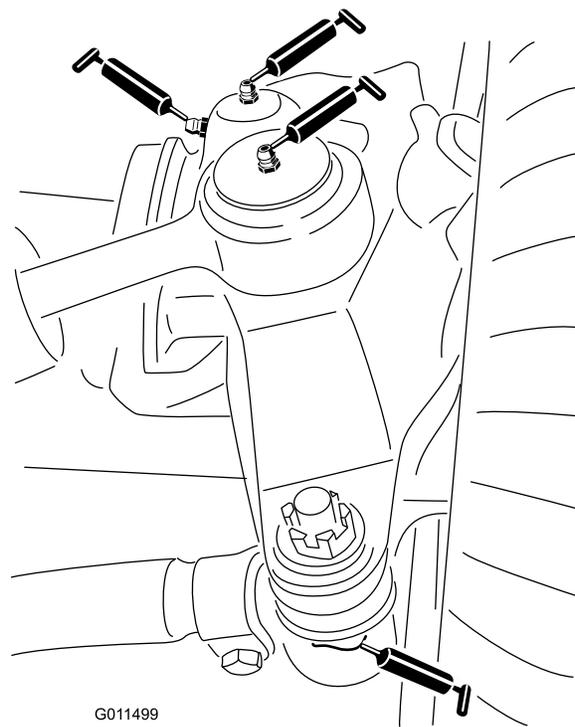

Figure 44
- 2 steering-cylinder-ball joints (Figure 44)
- 2 tie-rod-ball joints (Figure 44)
- 2 king-pin bushings (Figure 44).